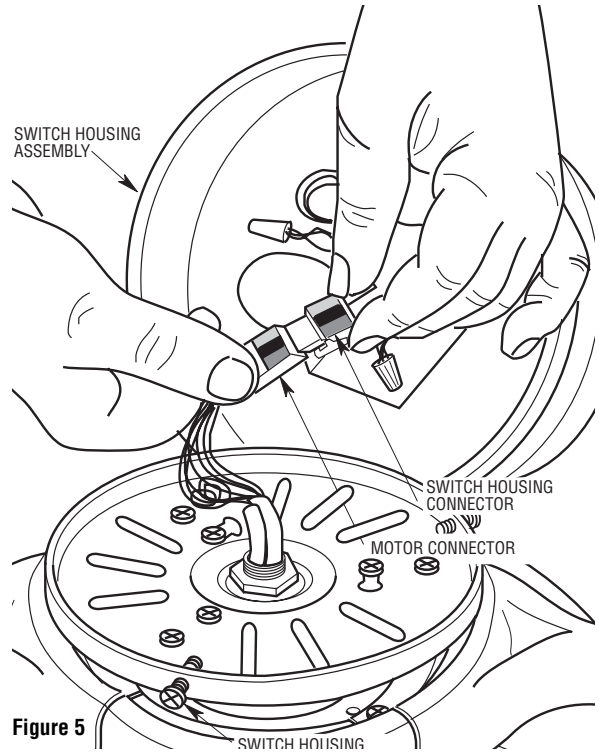

Figure 5
- 8. Engage the connector of the switch housing assembly with the motor connector (Figure 5). The two connectors are keyed and color-coded and must be mated correctly (color-to-color) before they can be engaged. Make sure the connector latch closes properly.
- 9. Remove the three mounting screws from the bracket switch housing assembly (Figure 5).